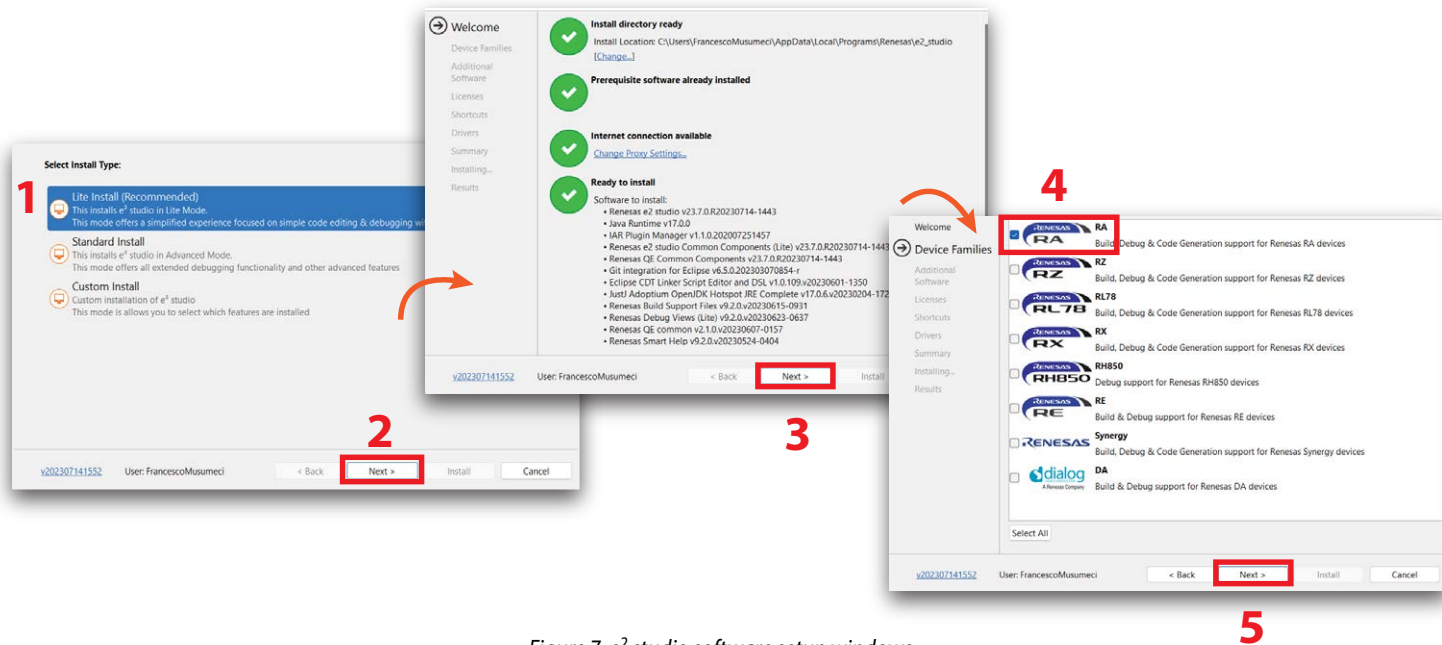

Figure 7: e² studio software setup windows
4. Follow the steps in figure 7.